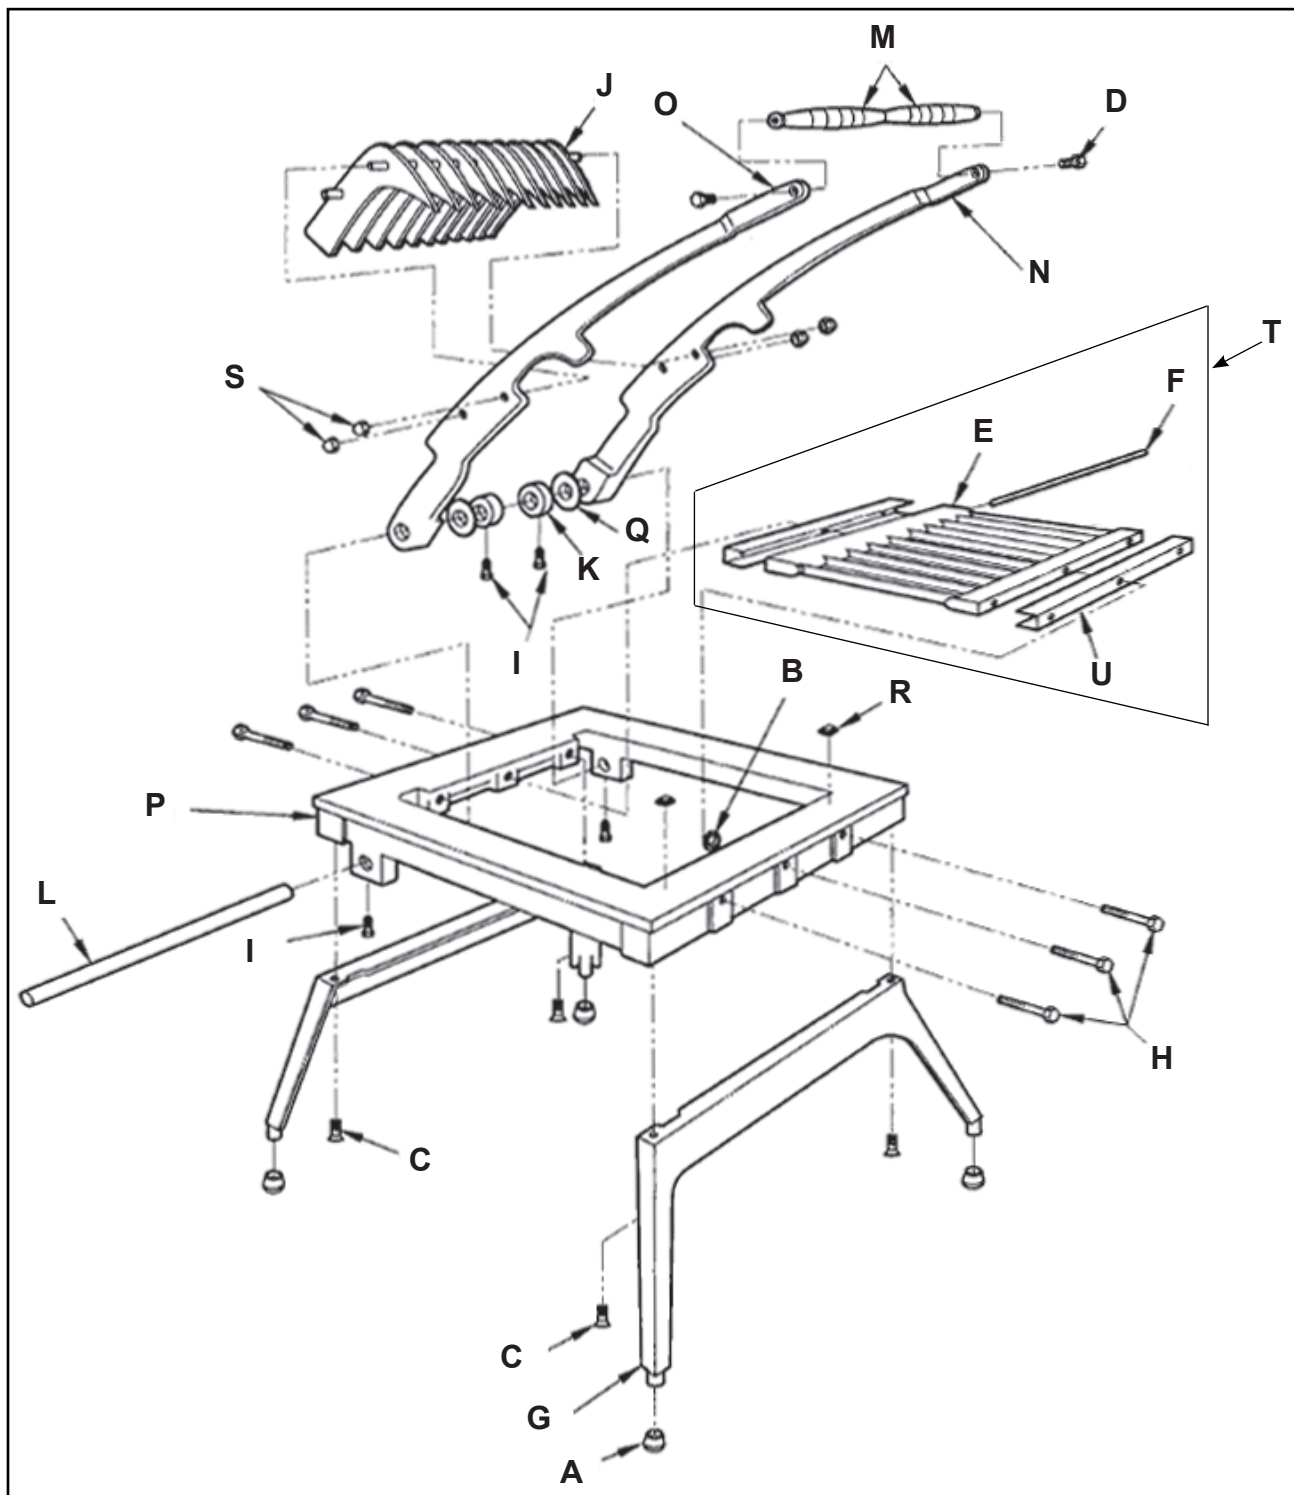

Figure 6. Spare Parts for Lettuce King I
1. Familiarize yourself with the parts diagram for your equipment. See Figure 6 (Spare Parts for Lettuce King I) for parts to reference for this procedure.
4. Verify that the pusher head bumpers (R) are installed. If missing, clean the surface and install new pusher head bumpers(s).
5. Remove the screws retaining the blade assembly (T). Carefully remove and dispose the blade assembly.
6. Examine the pusher head (J) fingers. If they are nicked or burred, smooth the rough edges with a small flat file. The spaces between the fingers must be uniform. Straighten any bent fingers.
7. Verify that blade shields (U) are installed on the blade assembly (T).
8. Place the blade assembly (T) into the base assembly (P) so the it is seated correctly and the sharp side up.
9. Install the screws into the rear side of the blade assembly (T). Tighten until contact is made with the base assembly (P). Turn the screw until tight, do not exceed 1/2 turn or 40 in. lbs.
10. Place rubber washer between the base assembly (P) and the blade assembly (T). Insert the screws through the frame, and rubber washer into the blade assembly. Turn the screw until tight, do not exceed 1/2 turn or 40 in. lbs.
11. Slowly bring the pusher head (J) down to the blade assembly (T). If there is contact, the pusher head may need to be adjusted. To adjust, loosen the locking collar set screws (I) and position then adjust the pusher head fingers. Tighten the locking collar set screws.